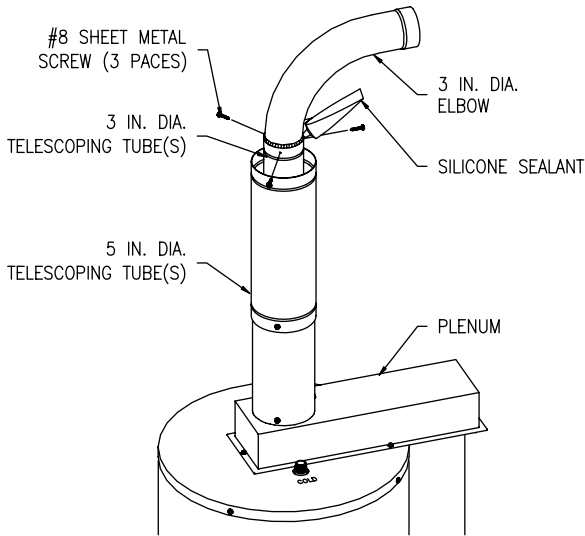

Figure 9
7. Insert the straight end of the three (3) inch (7.6 cm) diameter elbow one (1) inch (2.5 cm) (or until seated), into the end of the three (3) inch (7.6 cm) diameter telescopic tube(s). Make sure the three (3) inch (7.6 cm) diameter elbow is oriented in the correct direction. Drill three (3) 1/8 inch diameter holes, 120° apart, through the three (3) inch (7.6 cm) diameter telescopic tube(s) into the three (3) inch (7.6 cm) diameter elbow. Fasten with three (3) #8 sheet metal screws (supplied). Using the supplied RTV silicone sealant, apply a sufficient amount to seal the joint. (See Figure 9).